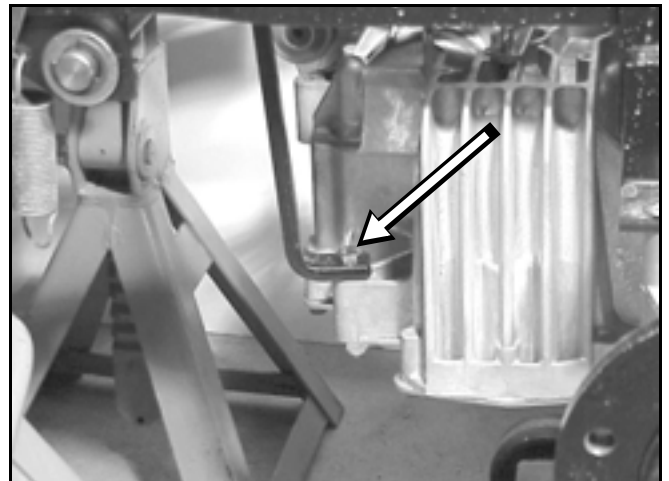

Figure 127
12. Remove the bolt, washer, and nut retaining the torque strap to the transaxle, located on the left front side (Figure 127).